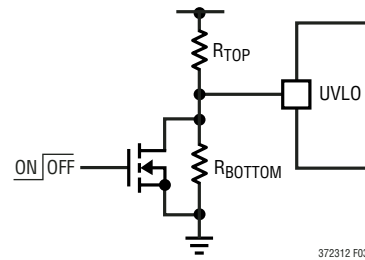

Figure 3. System UVLO Setup
UVLO. The amount of DC feed hysteresis provided by this current is: 10 μ A • R_{TOP}, (Figure 3). The system UVLO threshold is: 5V • {(R_{TOP} + R_{BOTTOM})/R_{BOTTOM}}. If the voltage applied to UVLO is present and greater than 5V prior to the V_{CC} UVLO circuitry activation, then the internal UVLO logic will prevent output switching until the following three conditions are met: (1) V_{CC} UVLO is enabled, (2) V_{REF} is in regulation and (3) UVLO pin is greater than 5V.
UVLO can also be used to enable and disable the power converter. An open drain transistor connected to UVLO as shown in Figure 3 provides this capability.